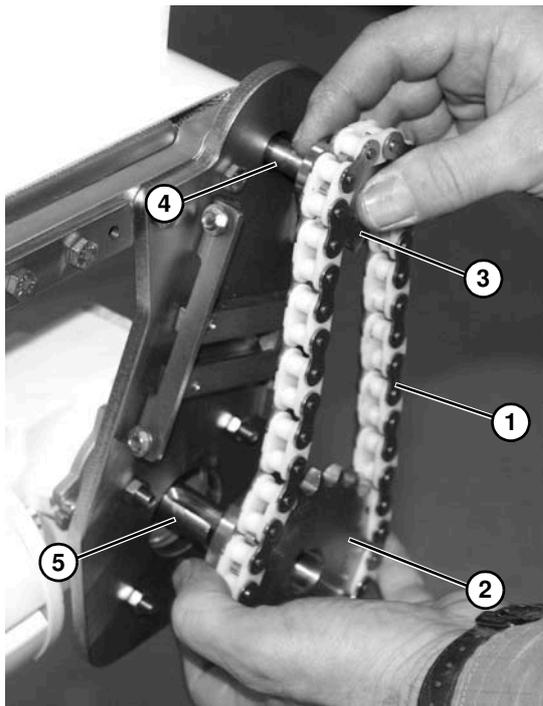

Figure 38
Make sure sprocket keys are installed on conveyor input shaft (**Figure 38, item 4**) and gearmotor output shaft (**Figure 38, item 5**).
1. Install timing chain (**Figure 38, item 1**) over drive sprocket (**Figure 38, item 2**) and driven sprocket (**Figure 38, item 3**). Install timing chain and sprockets on conveyor input shaft (**Figure 38, item 4**) and gearmotor output shaft (**Figure 38, item 5**). Do not tighten sprocket set screws.